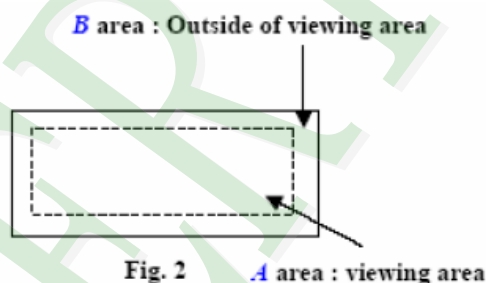

Fig. 2
(4). Definition of area . (Fig. 2)